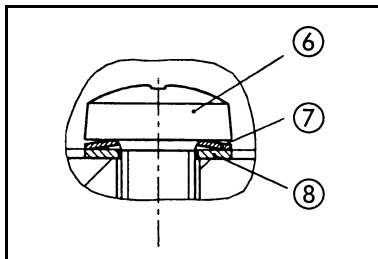

Fig. 18: Position and orientation of disk spring (7) and washer (8) at screw (6)
1. Place head plate (9) on intermediate plates (10), (13) and (14) in the position indicated by the drawing lines.
2. Tighten the three screws (6) of head plate (9) carefully slightly hand-tight (tightening torque: 0.6 Nm).
- i** For position and orientation of disk spring (7) and washer (8) of screw (6) see fig. 18.
3. Place head cover (3) on pump housing (17).
4. Tighten the nine screws (2) of head cover (3) slightly in the first instance. Start with the screws of medium pump stage, then tighten the screws on the right, and finally on the left.
5. Now, tighten the screws (2) firmly (tightening torque: 6 Nm); tighten the center screws first, then continue outward.
6. Remount the covers (4).
7. Tighten the two screws (1) on the head cover (tightening torque: 5 Nm).